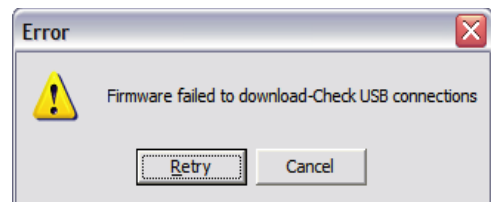

Figure 6. Expected Error Message
6. The message shown in Figure 6 appears because the firmware code, which is downloaded to the evaluation board EEPROM memory each time the interface software program is opened, is not downloaded yet. The firmware code cannot be downloaded yet because there is no USB connection between the computer and the **AD7294** evaluation board at this stage; therefore, this error message is expected.